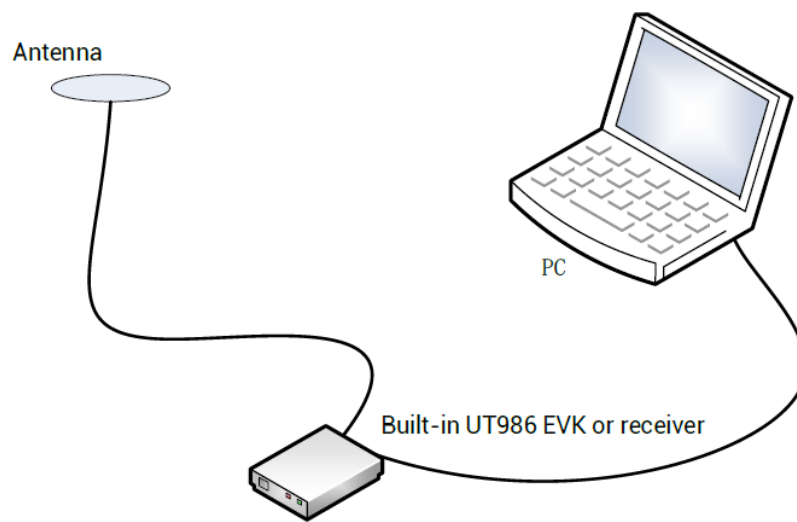

Figure 2-1 Typical Installation of UT986
**Figure 2-1 shows the typical installation of UT986 EVK.**